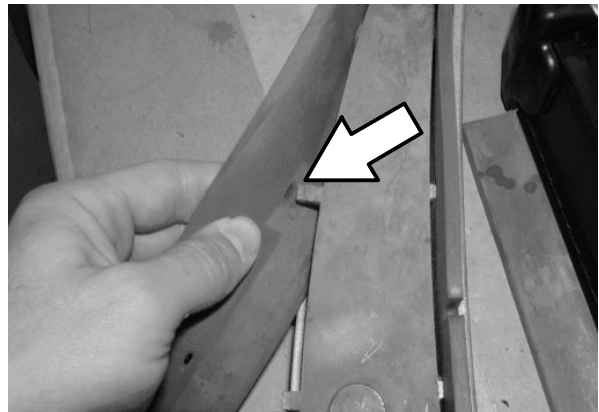

FIG. 5
8. Install the new rear squeegee blade (5) onto the squeegee retainer plate (2). Be sure the holes in the rear squeegee blade are hooked onto the squeegee retainer plate tabs. Refer to Fig. 5.